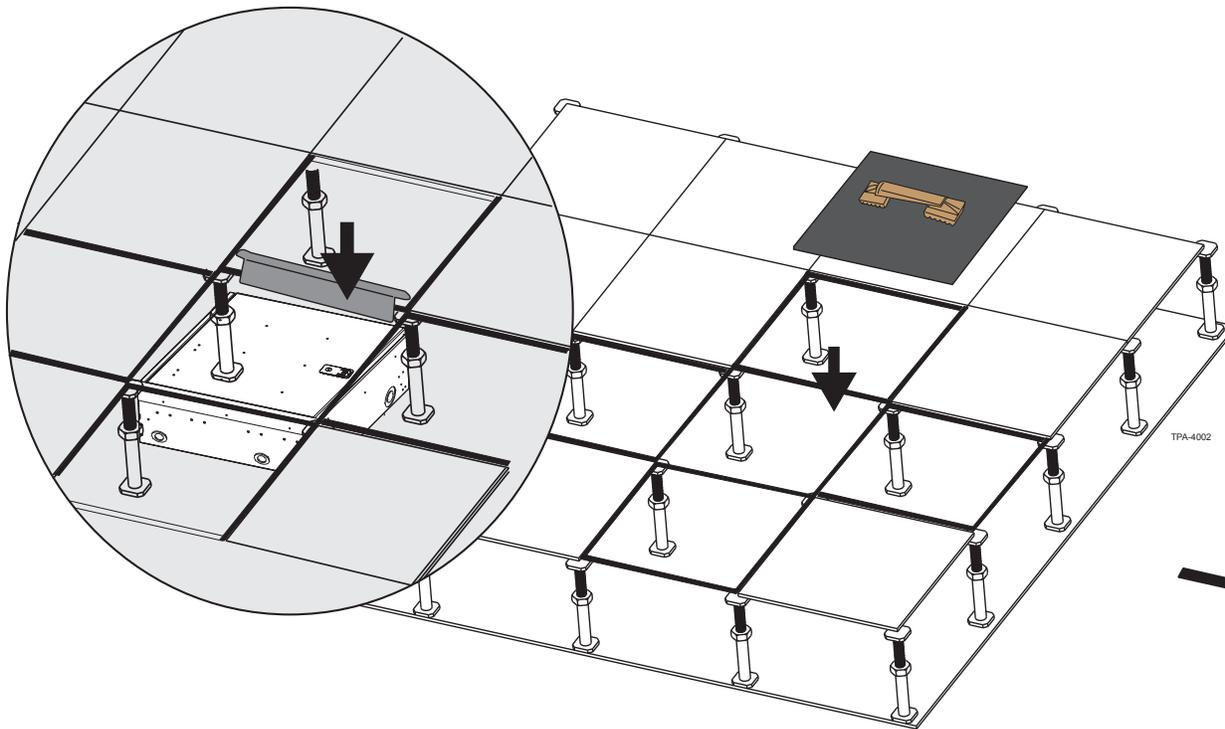

Figure 9
- Step 1:** Remove one of the trim plates and reinsert the housing into the center opening. Allow the side where the trim plate was removed to drop below the stringer on that side (Figure 9).
- Step 2:** Position the trim plate into the gap between the stringer and the FZB. Reinstall the trim plate to the side of the unit with the provided screws (Figure 9 inset). (It may require two people to perform this operation.)